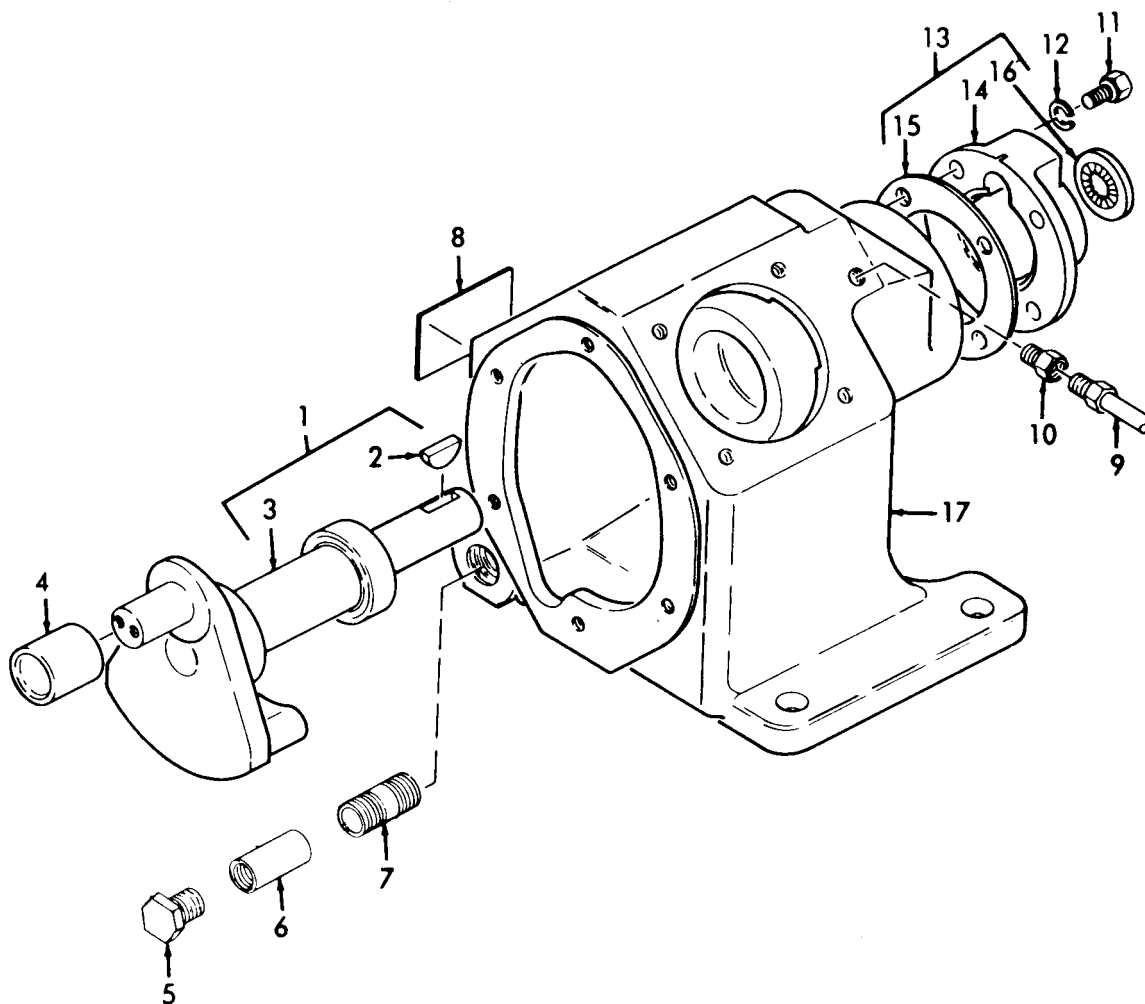

Figure 14-10. Crankshaft Assembly, Exploded View.
(5) Refer to figure 14-10, and remove the crankshaft assembly in numerical sequence. Do not remove decals.
## LEGEND FOR FIGURE 14-10:
Refer to figure 14-10 for steps (1) through (3).
- (1) Install the crankshaft, complete (1, figure 14-10 ) from frame end as follows: